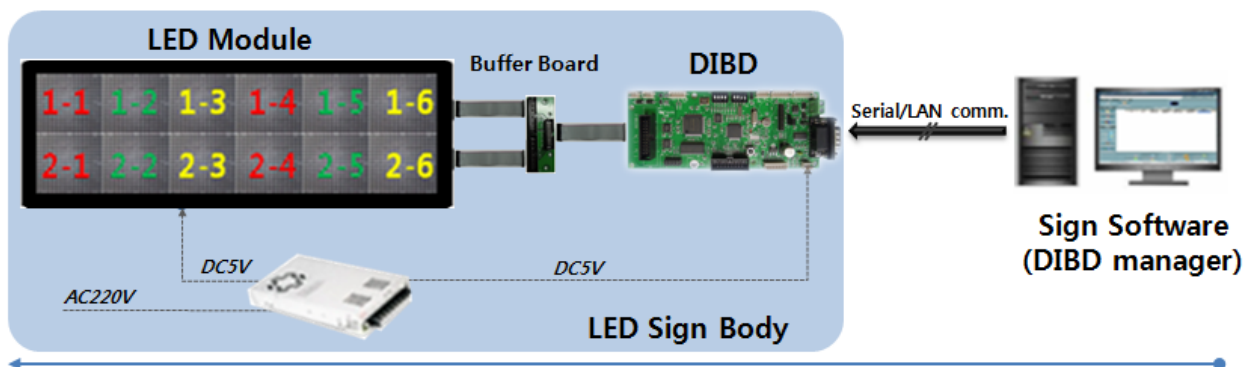

Fig. 3 Data Flow of LED Sign System
- E. Check whether the image is naturally displayed on the LED Sign from right to left direction from the front view(See **Fig.3** below).